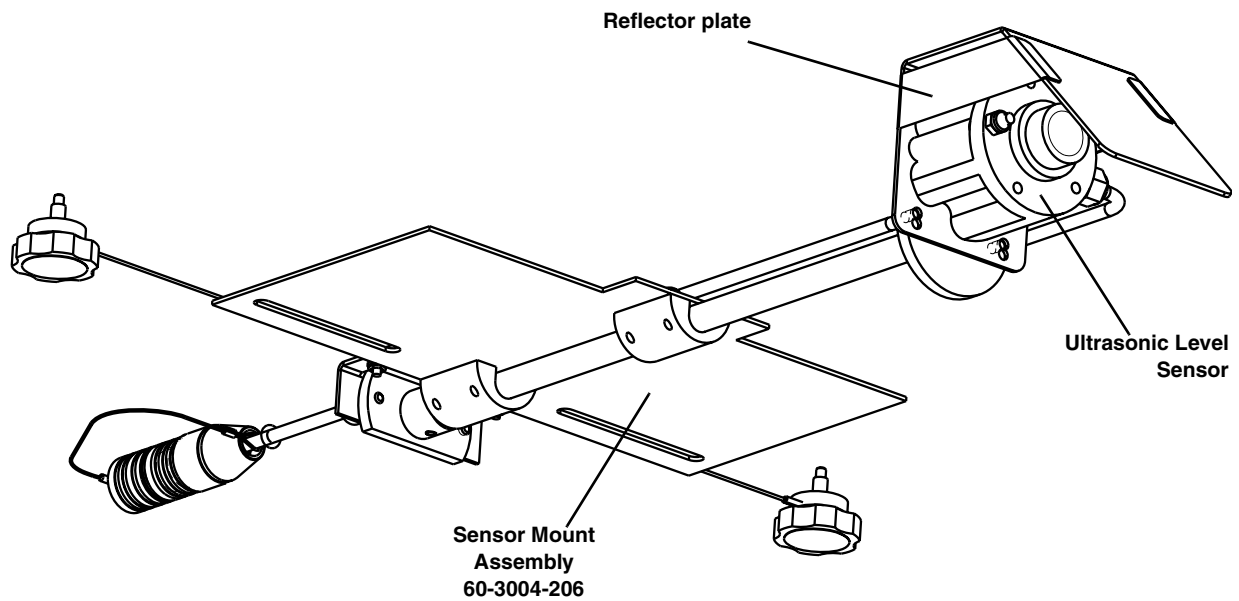

Figure 3-21 USLS attached to the sensor mount assembly
4. Attach the sensor mounting bracket to the mounting plate as shown in Figure 3-21. Attach the sensor to the mounting bracket with the transducer facing down through the hole, facing the same direction as the flat edge of the mounting plate.